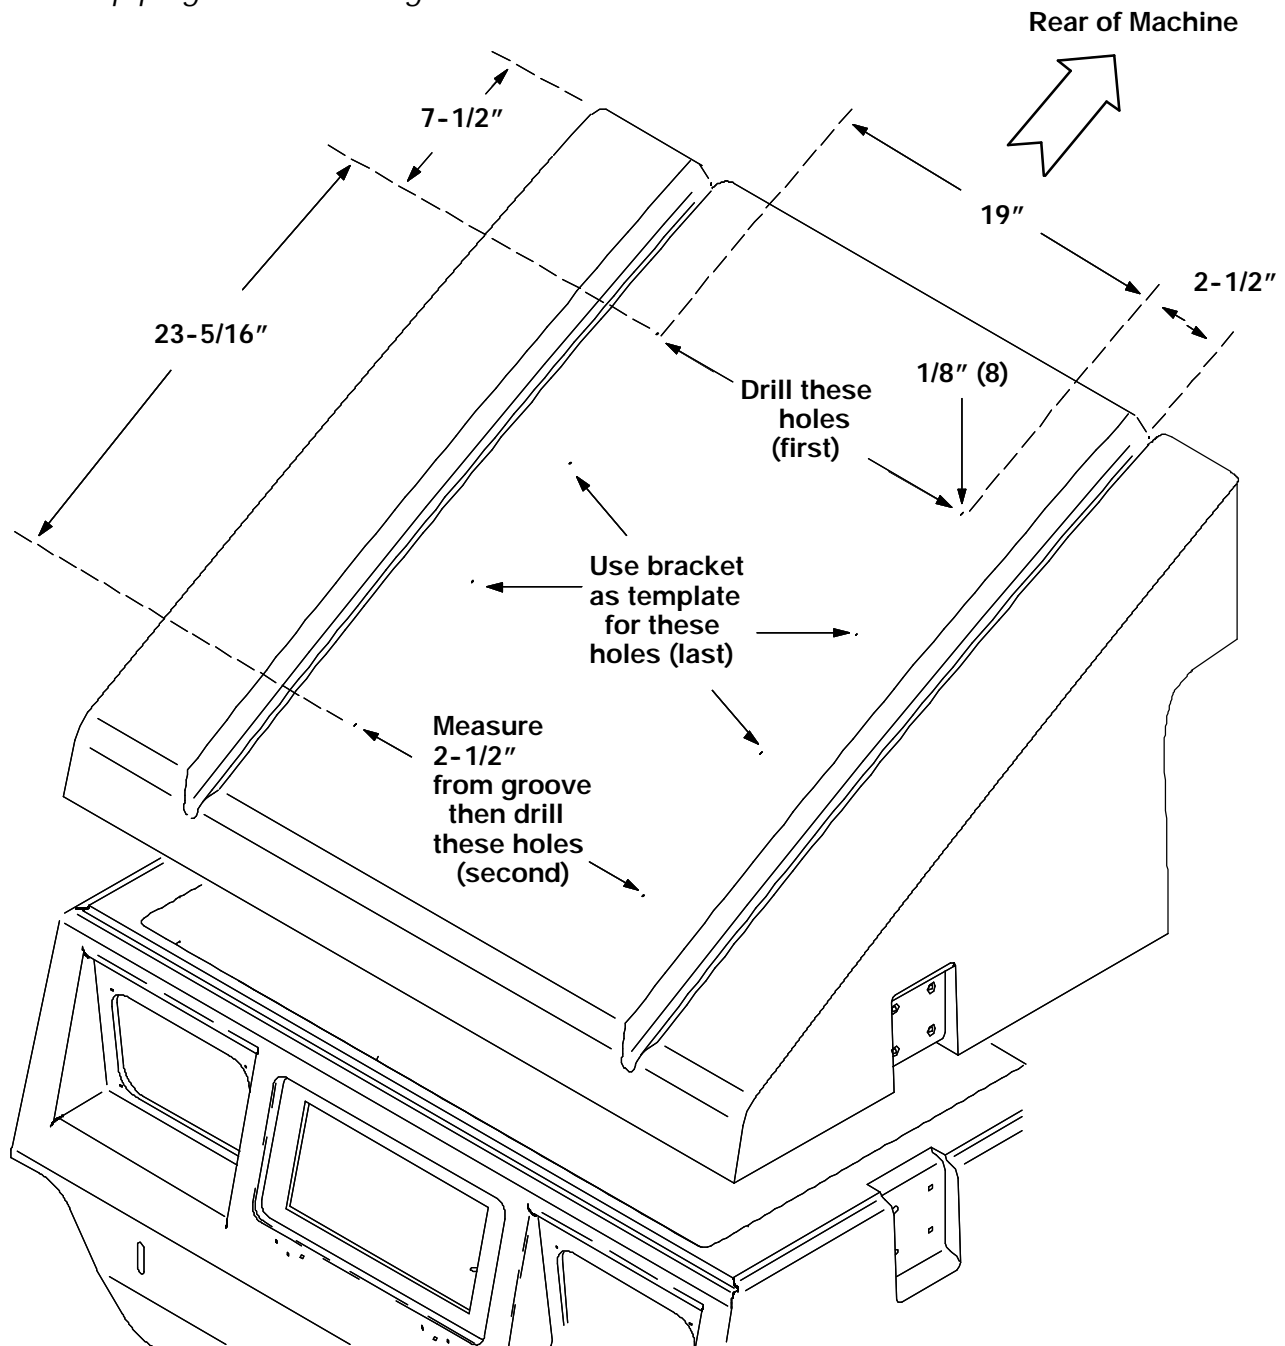

FIG. 1 - Location of Holes for Mounting Vacuum Wand Bracket
(Refer to FIG. 1, 2 and 3)
2. Using a vacuum wand bracket (16) as a template, measure and mark mount holes on hopper as shown in FIG. 1.